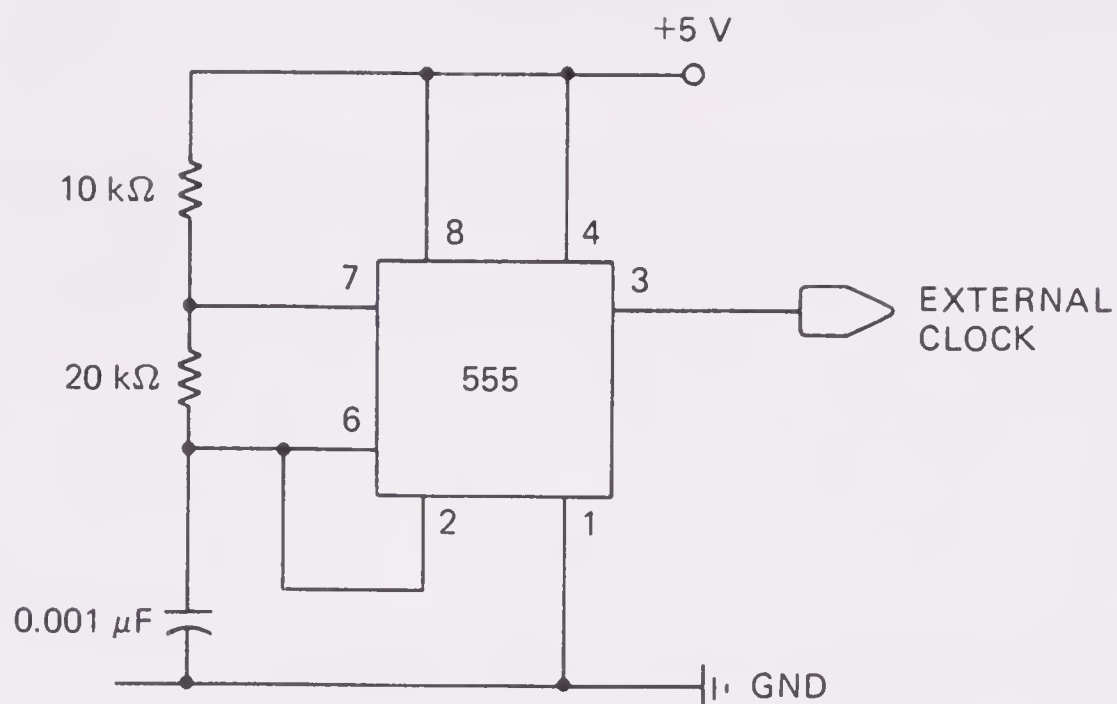

FIGURE D-1. Simple circuit for generating a low-frequency clock from a 555 timer. The frequency is approximately 83 Hz.
- A low-frequency clock input (5 to 200 Hz), such as one generated from a 555 timer (see Figure D-1). The clock should be tied with a jumper to pin PA5 of the user VIA (pin 6 of the Application Connector) as shown in Figure D-2. Jumpers will let you choose between the clock input and the switch in Figure 2-1.